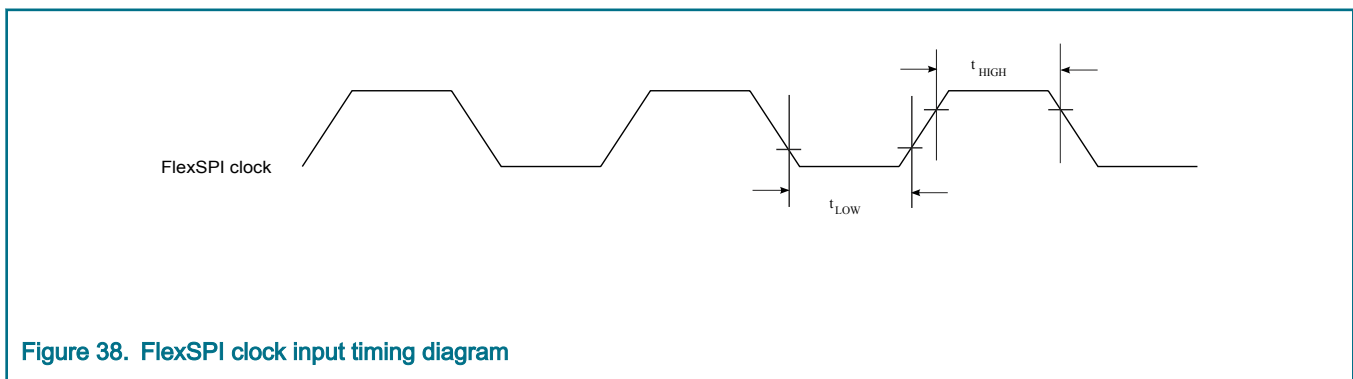

Figure 38. FlexSPI clock input timing diagram
3. See Figure 38.
5. See Figure 38.